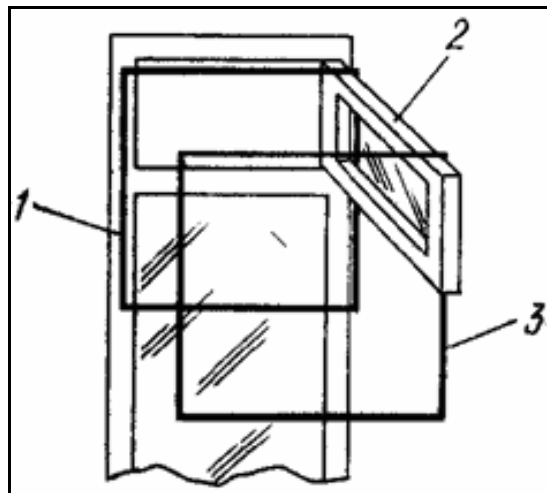

Figure 1
The cubical quad with 75-Ohm coax feeder [ 1 ] was taken as basic for the Experimental Antenna ("EA"). The distance between driver and reflector is equal to  $0.2\lambda$  as shown in Figure 1, elements of basic quad: driver (1), reflector (3) were put onto casement window (2) inside the room. Such a construction can be situated outside fastened to the wall. Such antenna can be rotatable but only in sector of 120-150°. To stabilize the position of antenna hooks are a great help. Such antennas will be helpful for amateur radio and for TV reception too.